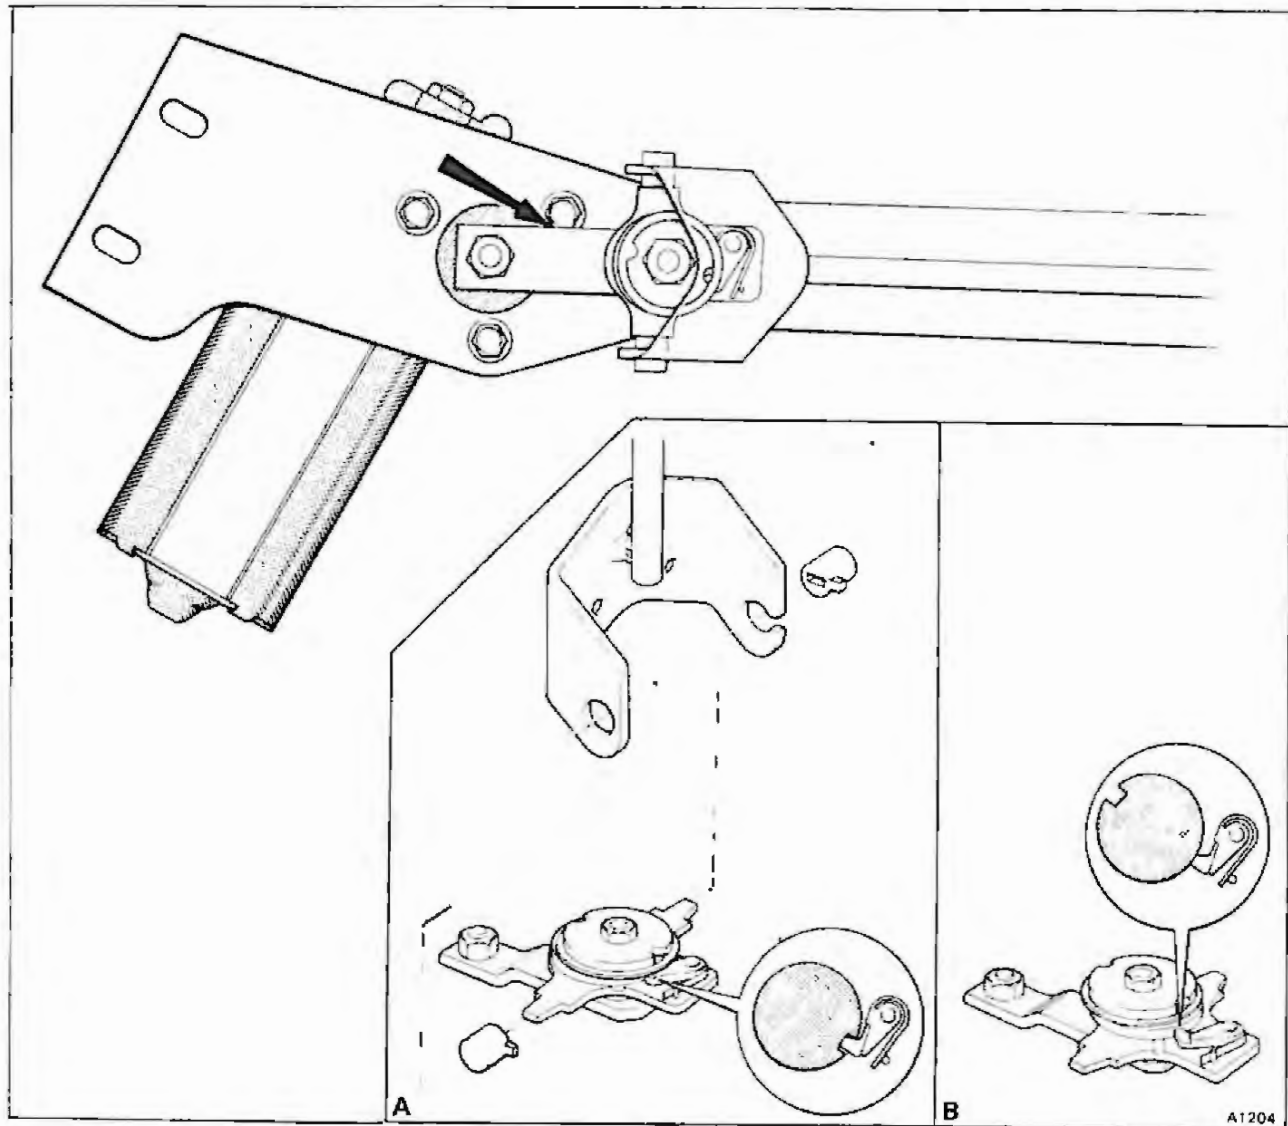

Fig.2 Windscreen wiper mechanism, motor/gearbox and anti-streak mechanism - right-hand drive
11. Fit the anti-streak mechanism to the motor and ensure correct alignment (see fig.2 right-hand drive cars and fig.3 left-hand drive cars).